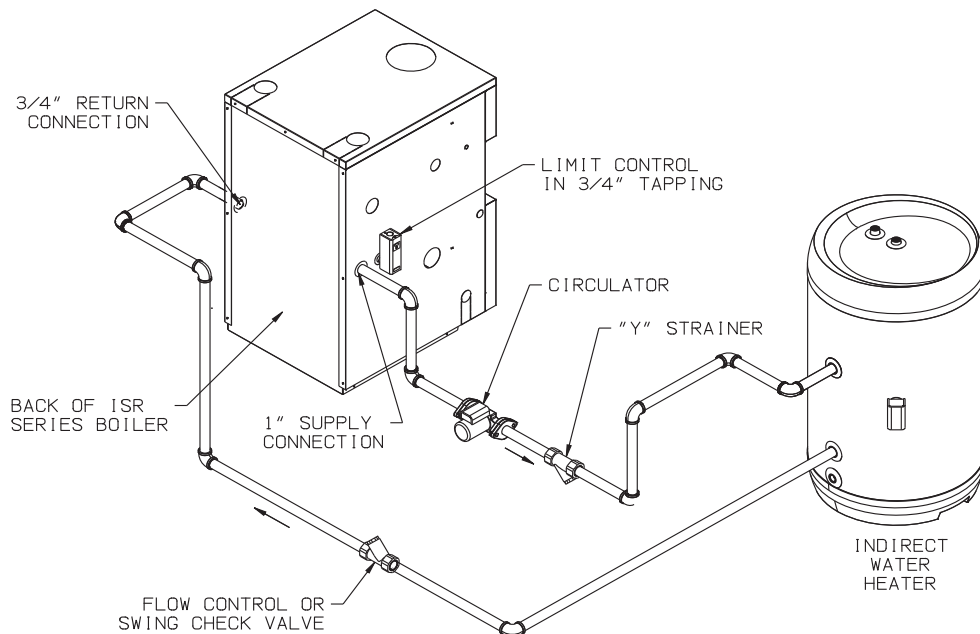

FIGURE 8.1: INDIRECT WATER HEATER BOILER-SIDE PIPING
- 1) Circulator - Mount the circulator as shown in Figure 8.1. The circulator should be located as low and as close to the boiler as practical. Do not install valves, or other devices having a significant pressure drop, between the boiler and the circulator inlet. All piping between the boiler and the circulator inlet should be 1", regardless of the size of the piping required in the rest of the system. See Figure 10.3 in Part X for wiring information.